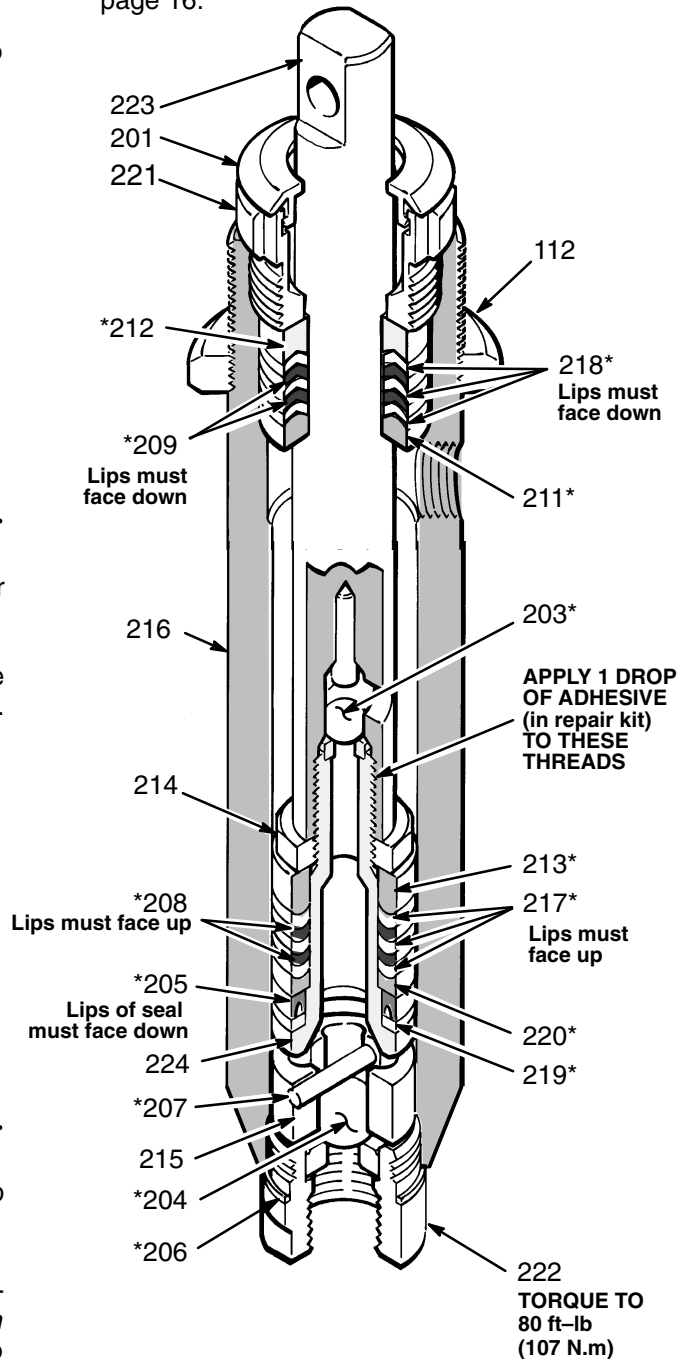

Fig 15
Disassembly. See Fig 15, except where noted.
- B. Clean all parts thoroughly. Check the outside of the piston rod (223) and the inside of the cylinder (216) for scoring or scratches, which prevent the packings from sealing properly. Replace all worn parts.
- C. Alternate polyethylene and leather packings as shown in Fig 15, starting with the polyethylene packings. Notice that:
- the lips of the U-cup seal (205) face down.
- Stack the backup washer (219*), U-cup seal (205*) *lips down*, and female gland (220*), alternate the polyethylene and leather v-packings (217*, 218*) *lips up*, and stack the male gland (213*) one at a time onto the piston valve (224). See Fig 15.
- Stack the male gland (211*), alternate the polyethylene and leather v-packings (218*, 209*) *lips down* and stack the female gland (212*) one at a time into the top of the cylinder. See Fig 15.
- Loosely install the packing nut (221) and plug (201).
- Insert the oiled piston rod (223) into the bottom of the cylinder.
- Assemble the intake valve. Use a new gasket (206*). Screw the valve into the cylinder and tighten to 80 ft-lb (107 N.m). See Fig 15.
- Screw down the cylinder locknut (112) until it is finger tight at the bottom of the external cylinder threads. See Fig 15.